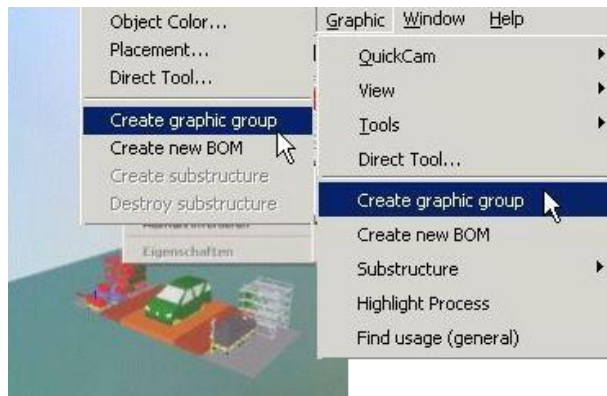

Figure 80: Creating Graphic Group: Context and Graphic Menu
- 2) Click **Create graphic group**. This menu item is called in the **context menu** or in the **Graphic** menu. *Please refer to the Figure 80.*